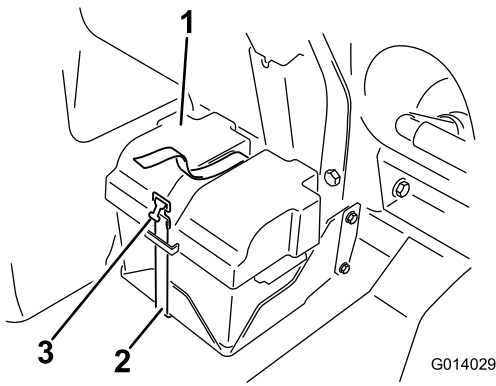
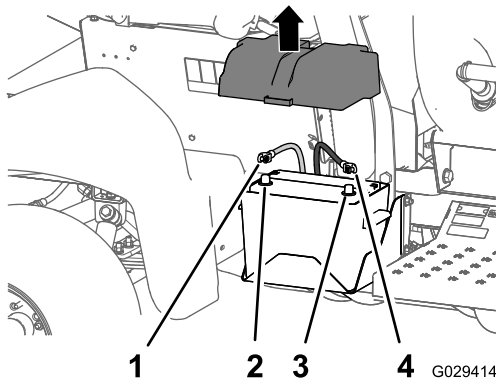

Figure 2
Figure 3
1. Remove the battery cover and disconnect the negative (black—ground) cable from the battery post (Figure 2 and Figure 3).
2. Disconnect the positive (red) cable from the battery post (Figure 3).